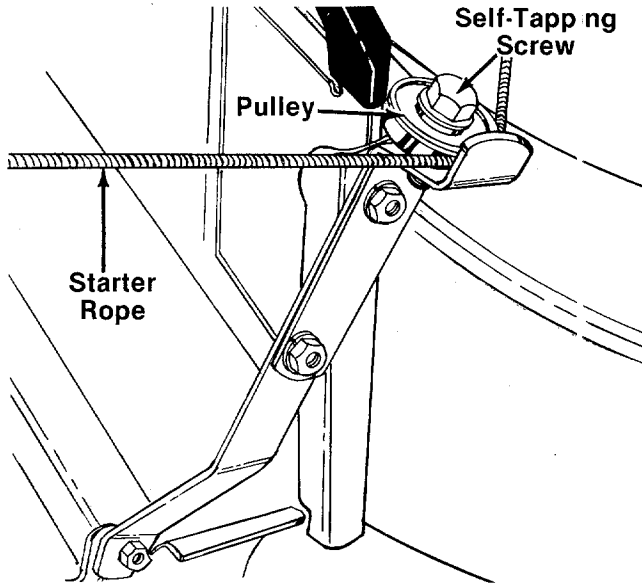

FIGURE 18.
9. Loosen (do not remove) the self-tapping screw which secures the pulley to the rope guide bracket. See figure 18.